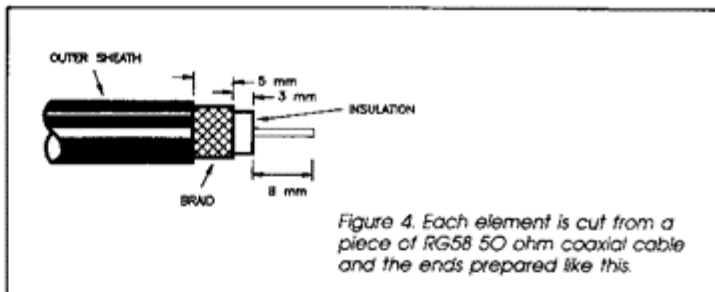

Figure 4. Each element is cut from a piece of RG58 50 ohm coaxial cable and the ends prepared like this.
3) Prepare each end of seven elements, and only one end of the eighth element, as detailed in Figure 4. The eighth element will become the 'top' element of the antenna.
7) With the ends of all the elements prepared as per Figure 4, now tin the exposed centre conductor and shield braid on each. Use a hot iron, preferably a temperature controlled type. A flat-faced ('spade') tip is best for this job. Apply the tip to the part to be tinned
11) Now for the feedpoint and groundplane. You'll have a short length of RG58 left over. Attach a suitable in-line connector, such as a BNC male, to one end and prepare the other end as per Figure 4.